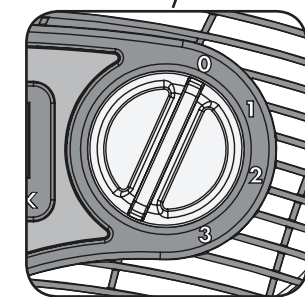

Figure 1A
4. Turn the Fan on by selecting the desired speed with the **Power Knob** on the side of the Fan. (Figure 1A)